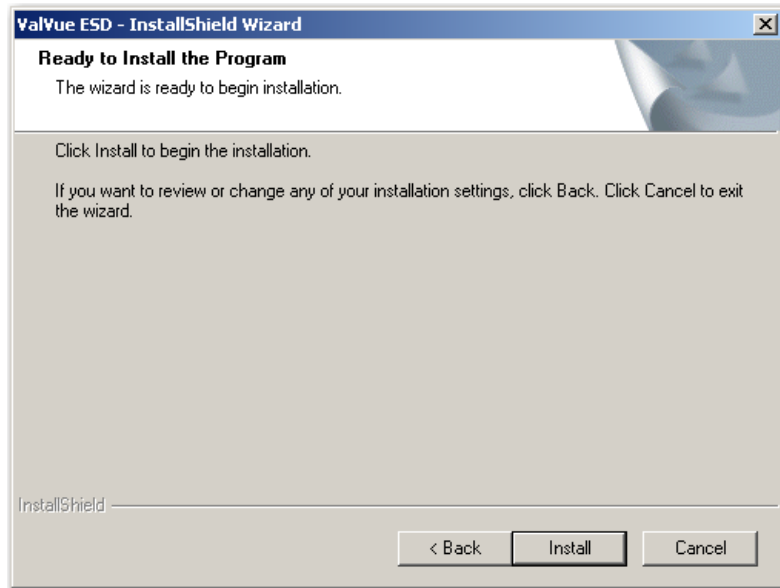

Figure 14 Ready to Install
8. Click **Next** and a screen appears (Figure 14).